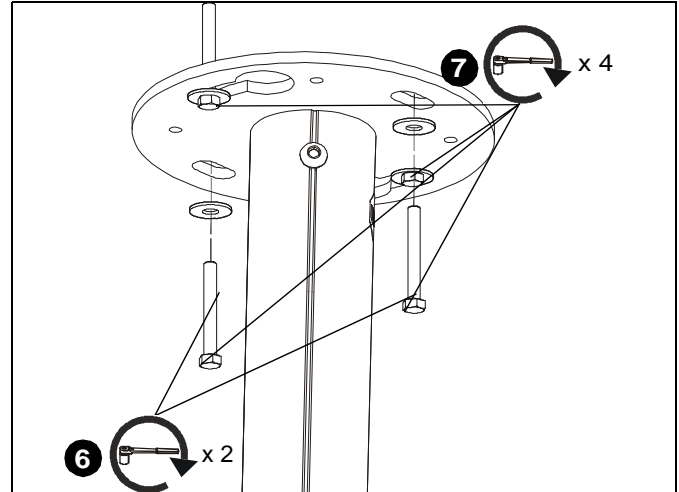

Figure 9
6. Install two 5/16" x 2 3/4" bolts (not included) through two 5/16" flat washers (not included) through holes on ceiling plate and into anchors. (See Figure 9)
7. Tighten all four bolts to secure plate to ceiling. (See Figure 9)